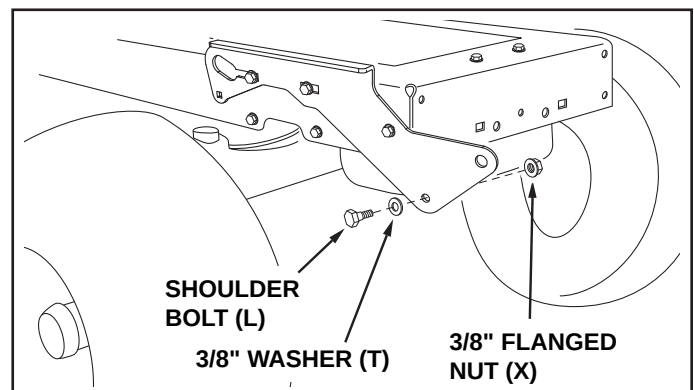

FIGURE 24
STEP 25: (SEE FIGURE 24)
- Assemble a shoulder bolt (L) and a 3/8" washer (T) to the outside of each side plate, securing them with a 3/8" flanged nut (X).